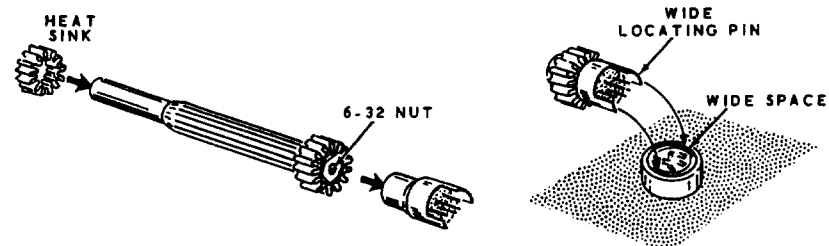

Figure 1-2
- ( ) Referring to Figure 1-2, install a heat sink on each of the 6DS4 nuvistors. Place a 6-32 nut in the large end of the nut starter. Slide a heat sink on the small end of the nut starter and down over the large end of the nut starter onto the 6DS4 nuvistors.